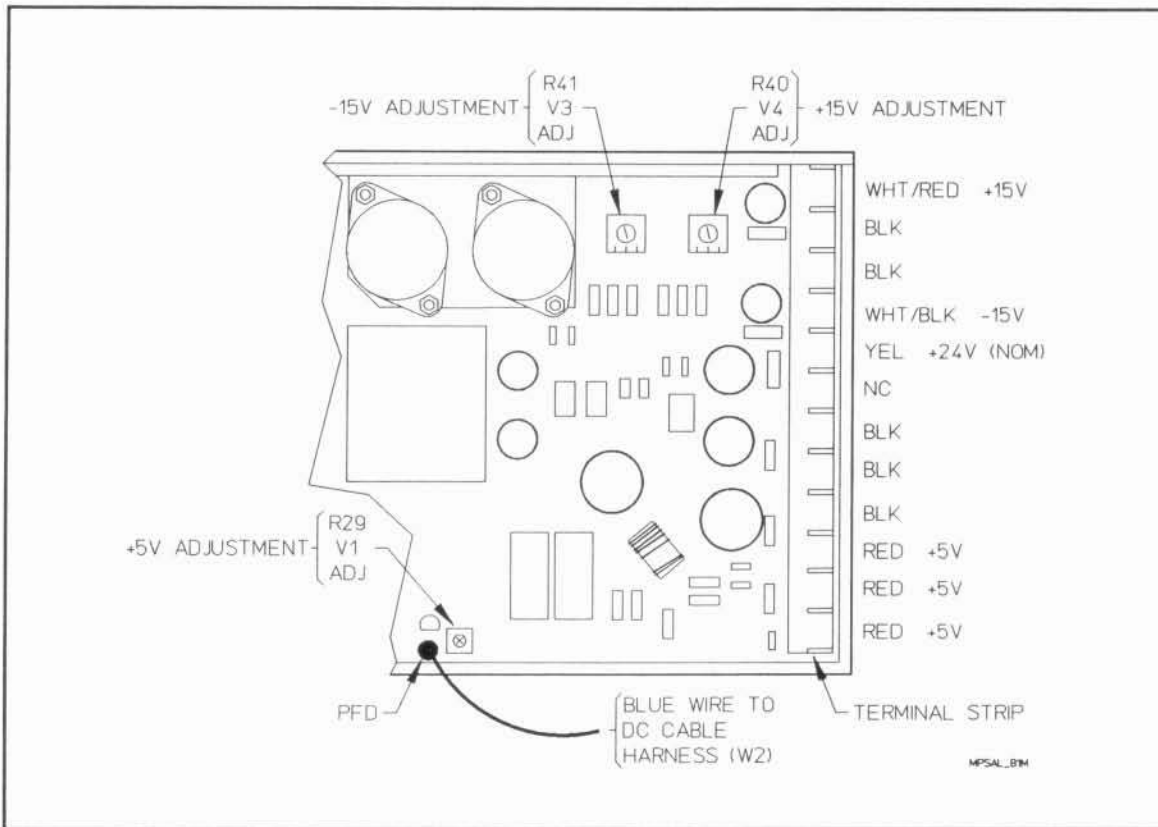

Figure 7-29. Power Supply Adjustment Locations
- f. Locate the  $\pm 15$  and +5 Volt adjustment pots on the power supply assembly (A14, *Figure 7-14*). See *Figure 7-29* for visual assistance as to where these adjustment potentiometers are located.